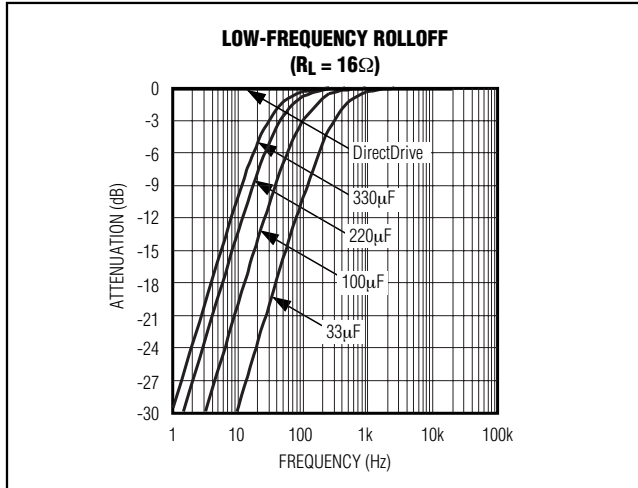

Figure 2. Low-Frequency Attenuation of Common DC-Blocking Capacitor Values
- The highpass filter is required by conventional single-ended, single-supply headphone amplifier to block the midrail DC component of the audio signal from the headphones. Depending on the -3dB point, the filter can attenuate low-frequency signals within the audio band. Larger values of C_{OUT} reduce the attenuation, but are physically larger, more expensive capacitors. Figure 2 shows the relationship between the size of C_{OUT} and the resulting low-frequency attenuation. Note the Vista's magnitude response specification calls for a -3dB point at 20Hz at the headphone jack. The -3dB point at 20Hz for a 32 Ω headphone requires a 330 μ F blocking capacitor (Table 2).